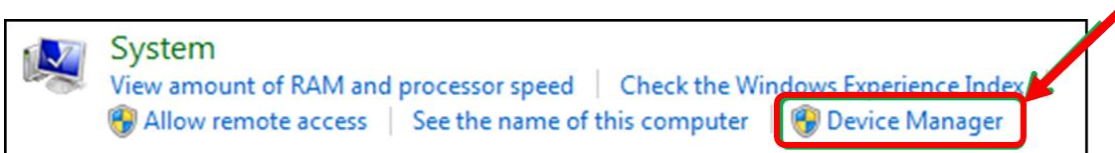

Fig. 11 System window.
- Navigate through System and security, System to Device manager (Fig. 11)